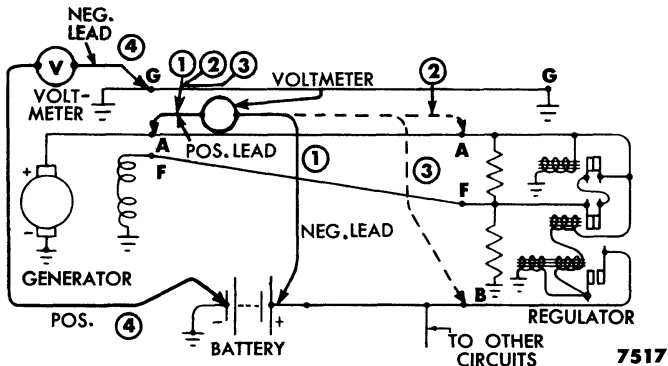

Fig. 26—Regulator External Circuit Test—Schematic
For the purpose of this test, the resistance values of the circuit have been converted to voltage drop readings for a current flow of 30 amperes. Connect the test equipment as shown in figs. 26 and 27 to measure voltage drop around the circuit.
Touch the voltmeter negative lead to the center of the positive battery post (figs. 26 and 27, connections marked ①) to check the generator to battery circuit. The voltage drop should be less than 0.9 volt.
Check the battery to generator ground circuit by connecting the voltmeter as shown in figs. 26 and 27 (connections marked ④). The voltage reading should be less than 0.1 volt.